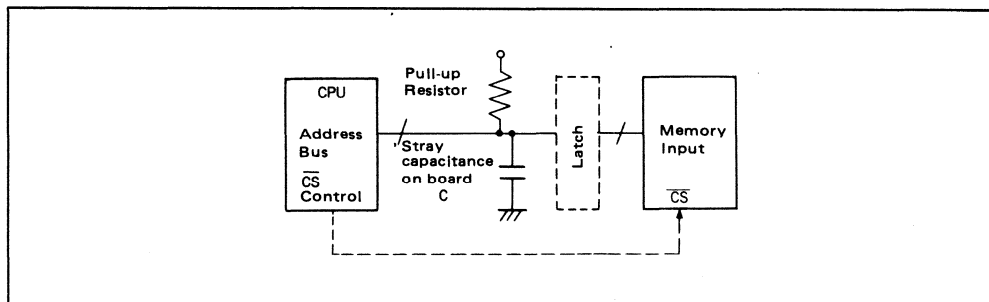

Figure 8-7
Data stored in memory might be destroyed in a case where the address input of a HM6716, HM6719, HM6787, HM6788, or HM6789 series device floats and sticks near threshold voltage (e.g. CPU sets the address bus to off state in Figure 8-7). Consequently, the following three methods are recommended to prevent malfunctions of a Hi-BiCMOS memory device.
- A: Insert the latch as shown in Figure 8-7 to keep the address input from floating.
- C: Insert a pull-up resistor (R) to hold the time constant of the rising edge waveform on the address input pin ($t_r = R \times C$) below 150 ns.